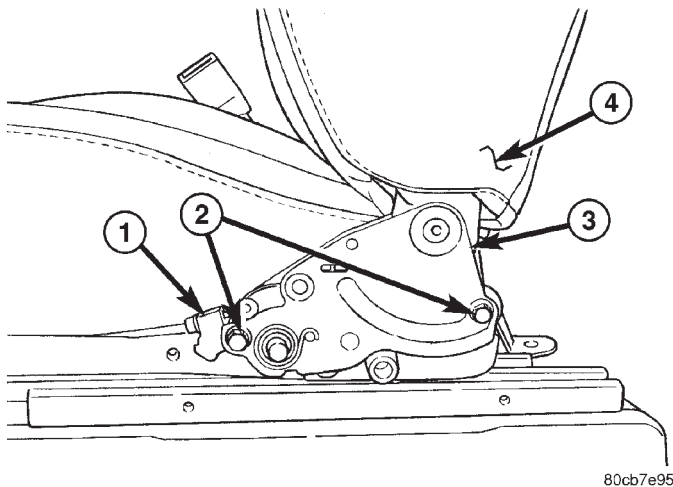

Fig. 2 SEAT BACK RECLINER
(1) Remove the seat. (Refer to 23 - BODY/SEATS/SEAT - FRONT - REMOVAL)
(2) Remove the seat cushion side shields. (Refer to 23 - BODY/SEATS/SEAT CUSHION SIDE SHIELDS - REMOVAL)
(3) Disconnect the lock out cable from both recliners. (Fig. 2)
(4) Remove the bolts and remove the seat back.